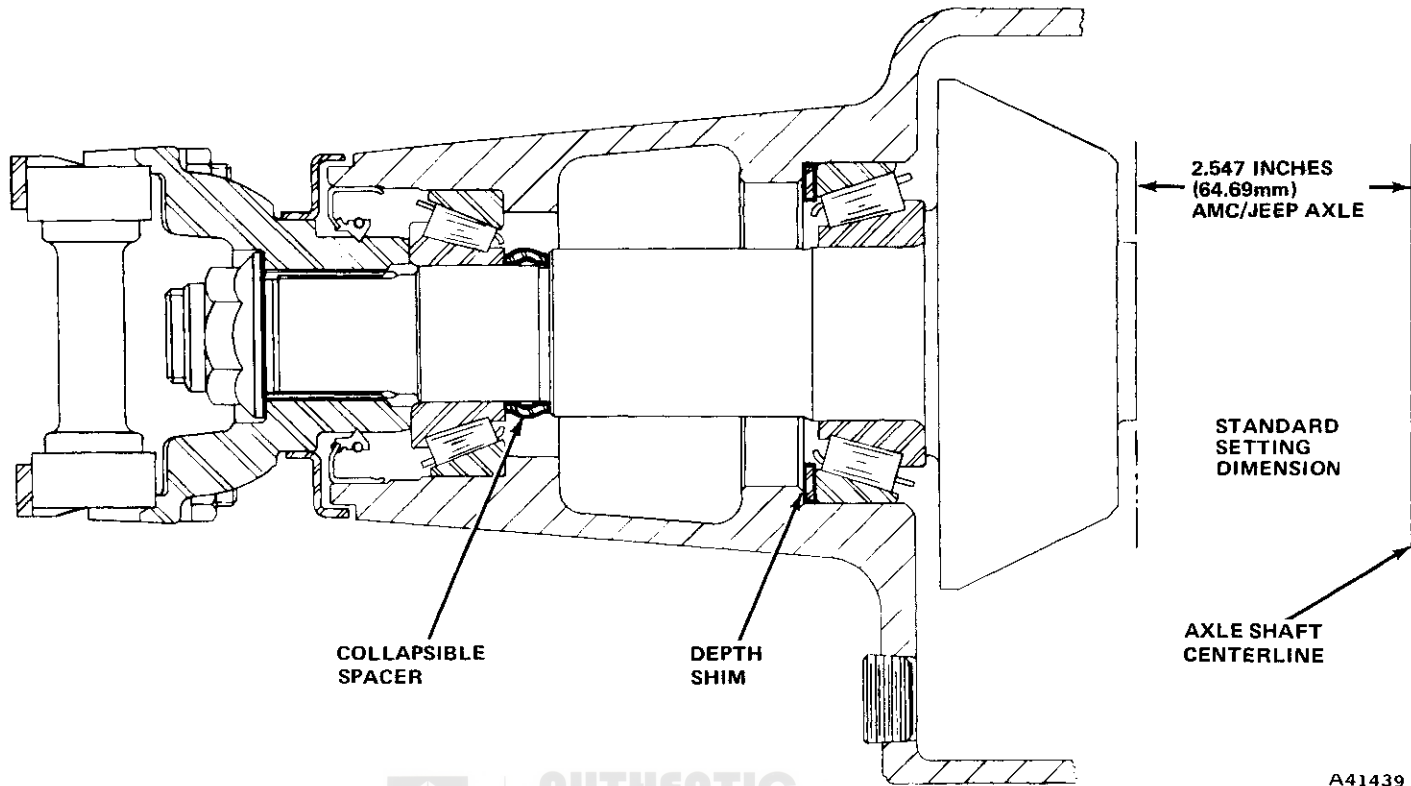

Fig. 2F-35 Standard Setting Dimension and Pinion Depth Shim Location
The standard setting for AMC/Jeep axles is 2.547 inches (6.46 cm). If the pinion is marked +2, the gear set varied from standard by +0.002 inches (0.05 mm) and will require 0.002 inch (0.05 mm) less shims than a gear set marked zero (0). When a gear set is marked plus (+), the distance from the pinion end face to the axle shaft centerline must be more than the standard setting. If the pinion gear is marked -3, the gear set varied from standard by 0.003 inches (0.07 mm) and will require 0.003 (0.07 mm) more shims than a set marked zero (0). When a set is marked minus (-), the distance from the pinion end face to the axle shaft centerline must be less than the standard setting. Refer to Figure 2F-35 for an illustration of the standard setting dimension.